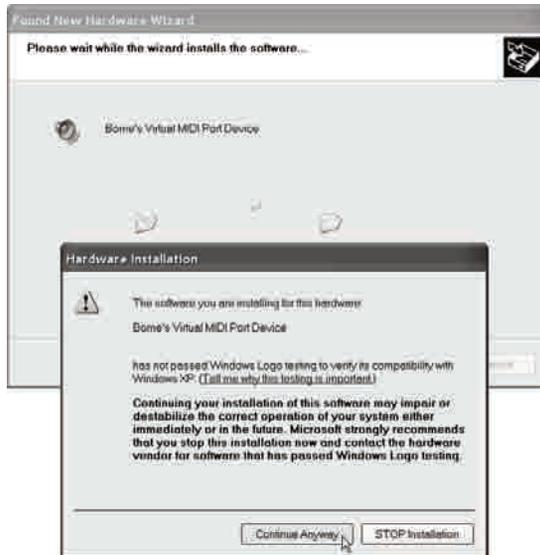

Figure 5.9
9. Click **Continue Anyway**. (Figure 5.9)